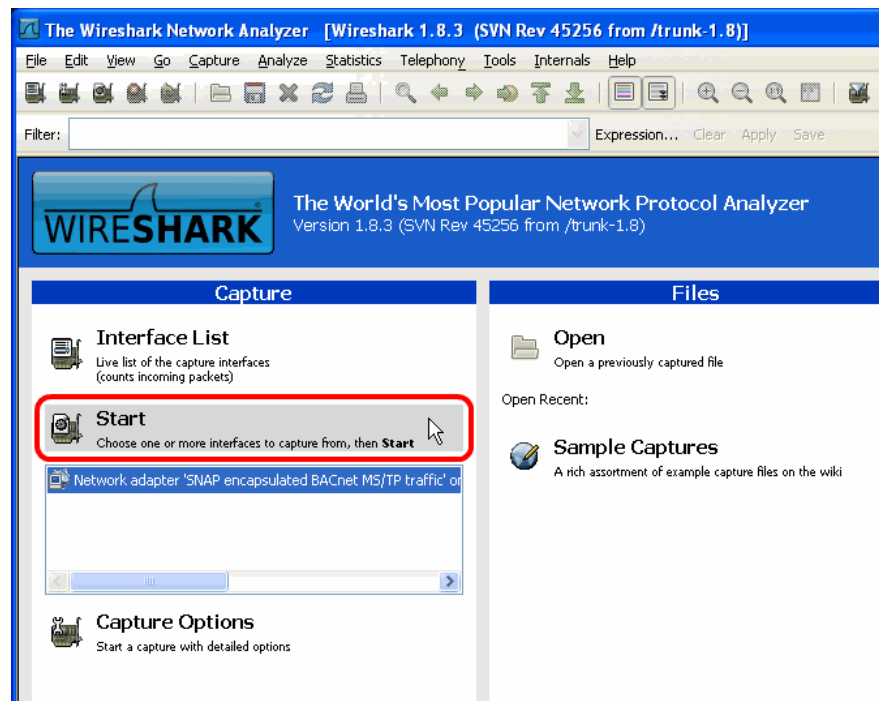

Figure 380: Start Remote Capture in Wireshark.
2. Click the **Start** button as shown in Figure 380.